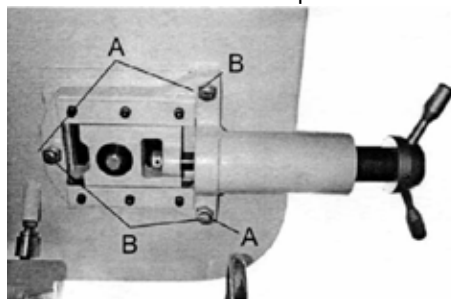

Figure 14. Blade Tracking Adjustment
- See Figure 14. Loosen 3 bolts (**A**) on the top of the tracking nuts. Tracking adjustment is accomplished by either loosening or tightening three adjusting nuts (**B**). Tracking is set properly when the back of the blade slightly touches the wheel flange.